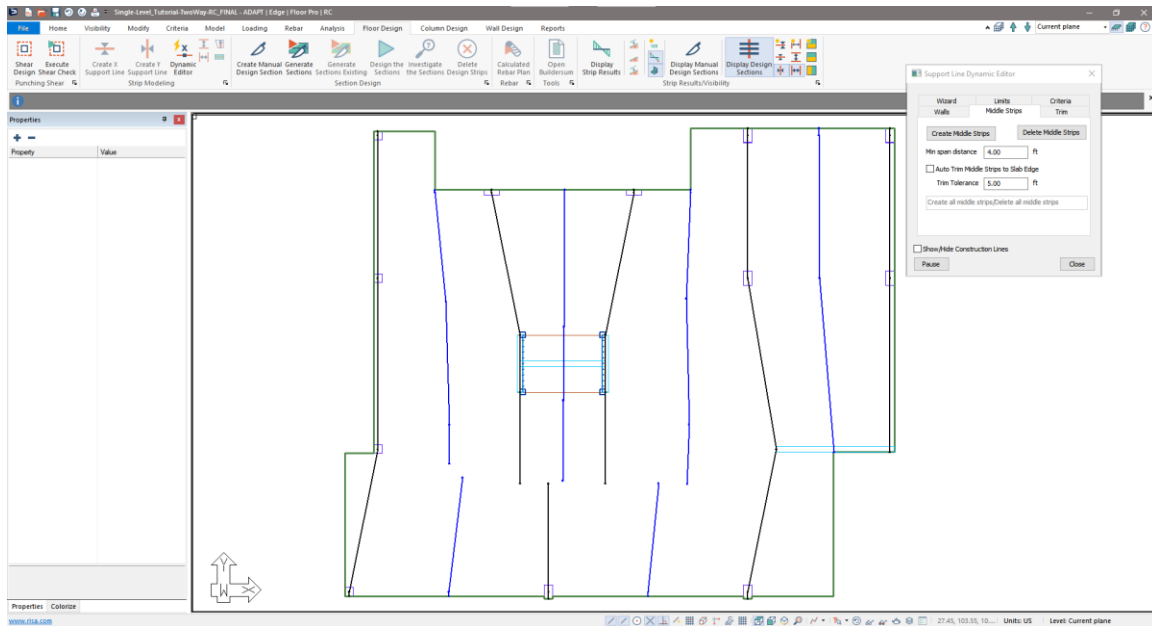

Figure 6-32
- Go to *Floor Design* → *Strip Results/Visibility* click on the *Display/Hide Support Lines in the Y-direction*  icon two times to show only the support line in the Y-direction. The users screen should now appear similar to **FIGURE 6-32**.